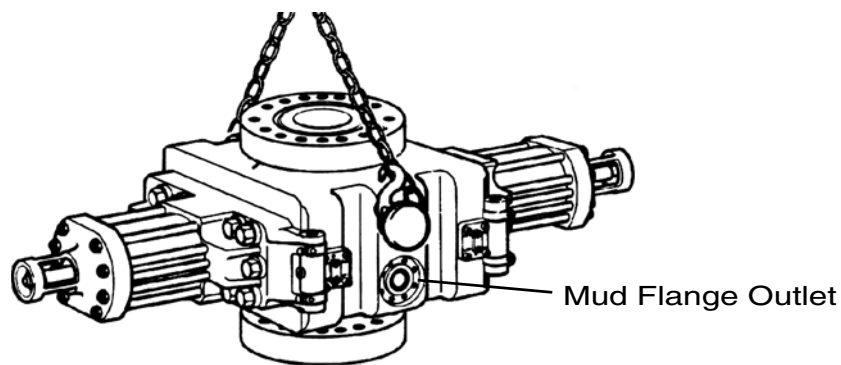

Figure 3-1. Lifting A Typical SLX BOP
- ❑ Some models have lifting lugs above the mud flange outlets (see Figure 3-1).
On models with lifting lugs cast into the body, the BOP is lifted by wrapping a chain, strap or cable of sufficient strength around the lug (see Figure 3-1).